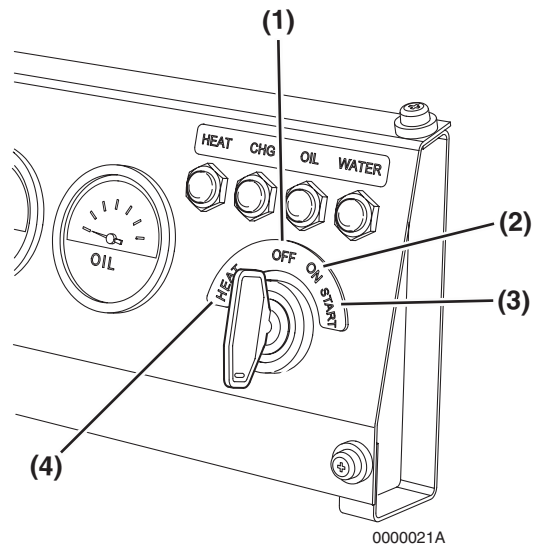

Figure 10
The key switch for the operator's console illustrated in **Figure 10** has four positions - OFF, ON, START, and HEAT.
OFF (**Figure 10, (1)**) - When you turn the key to this position the engine shuts down. Electric current to the gauges and indicators is shut off. You can insert and remove the key in this position.
ON (**Figure 10, (2)**) - This is the position the key will be in when the engine is running. When the engine is not running, use this position to energize the gauges, indicators, electric fuel pump and auxiliary devices.
START (**Figure 10, (3)**) - Turn the key to this position to start the engine. As soon as the engine starts, release the key and it will automatically return to the ON position. Some key switches may be equipped with a feature that prevents you from turning the key to the START position while the engine is running. You cannot turn the key to the START position without first returning the key to the OFF position.
HEAT (**Figure 10, (4)**) - You must turn the key to the HEAT position to activate the inlet air heater. The indicator will flash for several seconds when you turn the key to HEAT. You can turn the key to START when the indicator goes out.